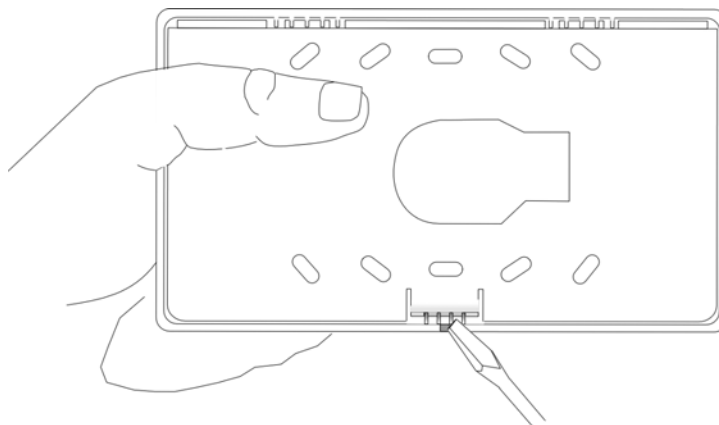

Figure 3-11 Rear Mounting Plate Removal
1. Remove the rear mounting plate by inserting a #4 flat blade screwdriver into the slots on the bottom edge of the annunciator. See Figure 3-11. Gently turn the screwdriver until the mounting plate pulls away from the frame.